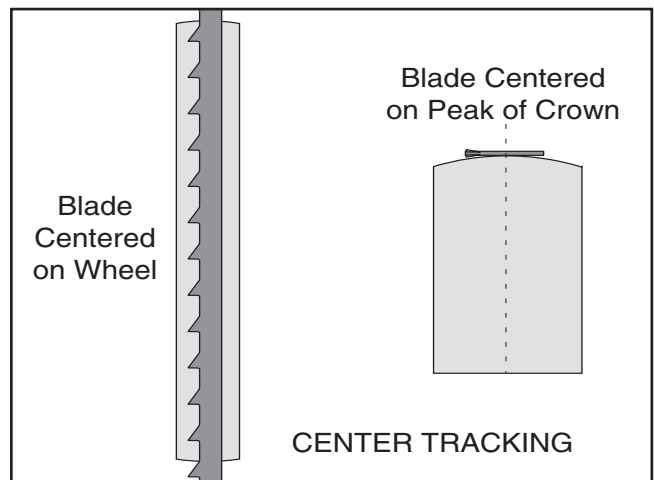

Figure 17. Center tracking profiles.
4. Spin the upper wheel by hand at least three times and watch how the blade rides on the crown of the wheel. Refer to **Figure 17** for an illustration of this concept.